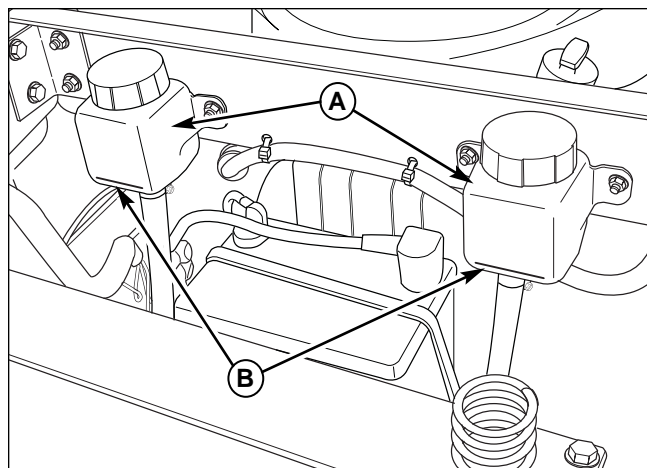

Figure 33. Transmission Oil Reservoirs
1. Check the oil level when the unit is cold. Raise the seat plate to gain access to the transmission oil reservoirs (A, Figure 33). The oil should be up to the “FULL COLD” mark (B). If the oil is below this level, proceed to step 2.
3. Add oil up to the “FULL COLD” mark (B, Figure 33).